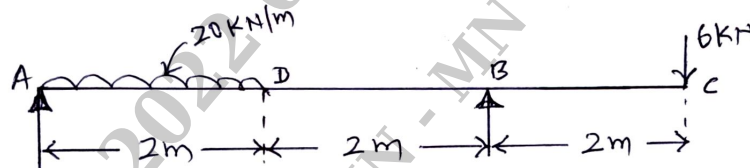

Fig.Q6(b)
b. Draw the shearforce and bending moment diagram indicating principal values for an overhanging beam shown in Fig.Q6(b). Locate point of contraflexure if any.